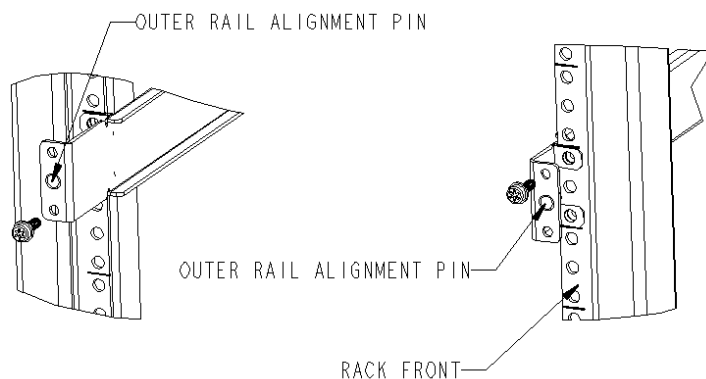

Figure 2-7. Assembling the Outer Rails (HP Rack)
- For an HP rack, install one M5 Torx screw in the upper hole location of the right rail. Then, install one M5 Torx screw in the lower location of the left rail. See Figure 2-7.